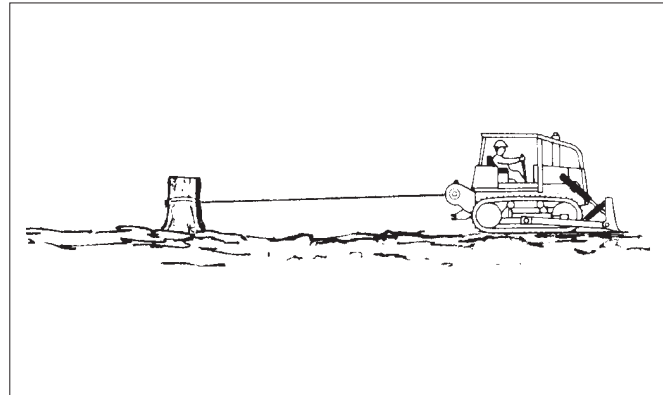

Figure 19 - Moving a Disabled Vehicle (Step A)
A. A tractor or skidder often travels in areas where traction conditions are bad. A vehicle equipped with a winch can be used to remove itself from mud or other areas where it cannot move using only the drive wheels or tracks. See Figure 19. Use the following procedure: